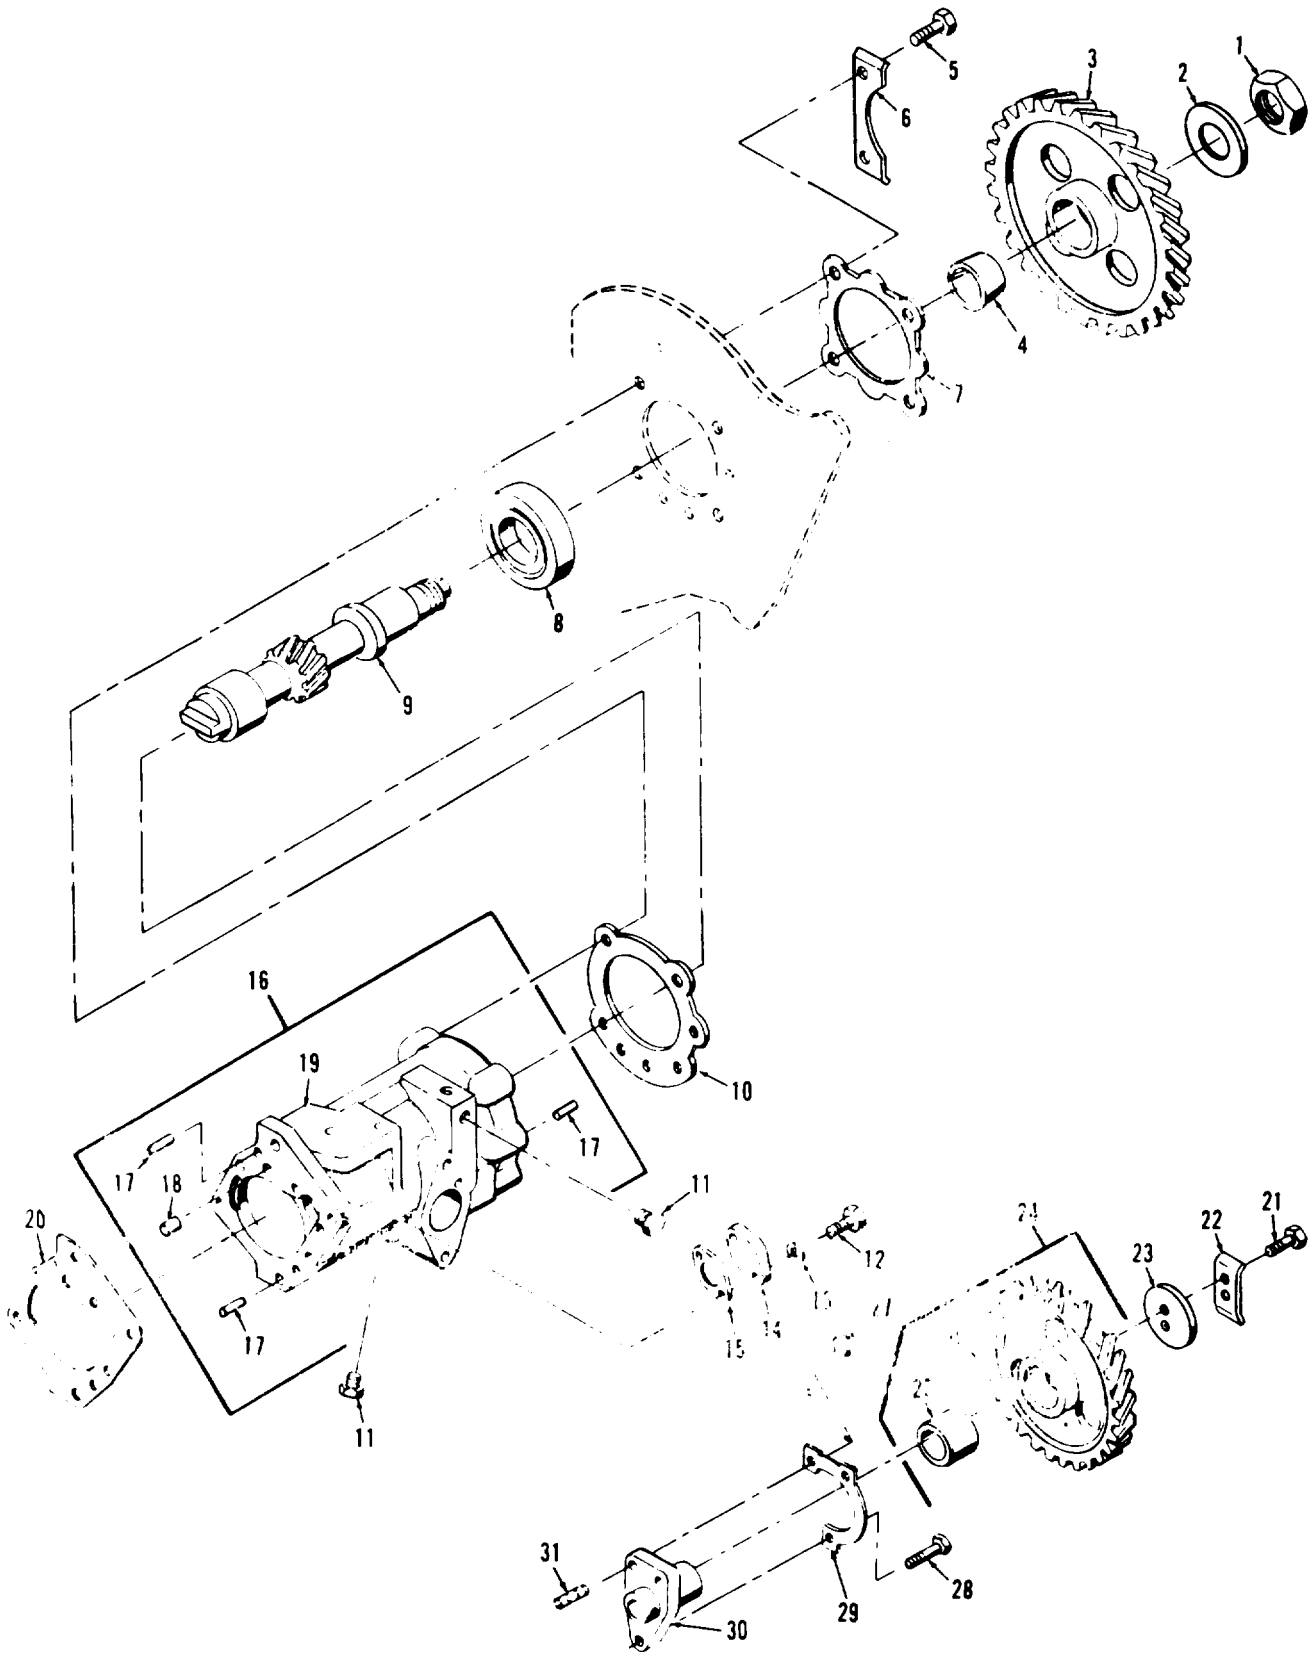

Figure 8-47. Accessory drive group, exploded view
Refer to figure 8-47 and disassemble accessory drive group in the order of index numbers assigned. Pay particular attention to the following:
2. Remove nut (1, figure 8-47) and washer (2) securing gear (3) to shaft (9). Using a suitable puller, loosen drive gear (3, figure 8-47) from shaft (9). Remove bolts (5) and locks (6).
5. Before removing idler gear (26, figure 8-47), bar engine over manually to bring timing gear marks in line as shown in figure 8-30.
b. Check bearing (8, figure 8-47) for freedom of rotation. Replace a bearing if its rotation is rough.
c. Inspect bearing (8) for pits, scratches, cracks, or chipped race.
d. Inspect bearing (25) and shaft (30) for grooves and discoloration.
Legend to figure 8-47:
Refer to figure 8-47 and reassemble accessory drive group in the reverse order of index numbers assigned. Pay particular attention to the following:
e. Turn accessory drive shaft, using extension nut, as shown in figure 8-48 until timing plate fits properly on accessory drive housing. When plate fits flush against housing (19, figure 8-47), drive shaft is properly timed.
f. Remove timing plate. Install accessory drive gear as shown in figure 8-30. Install conical washer with O.D. in contact with gear, Align timing marks as shown in figure 8-30. Tighten retaining nut (1, figure 8-47) from 90 to 110 foot-pounds.